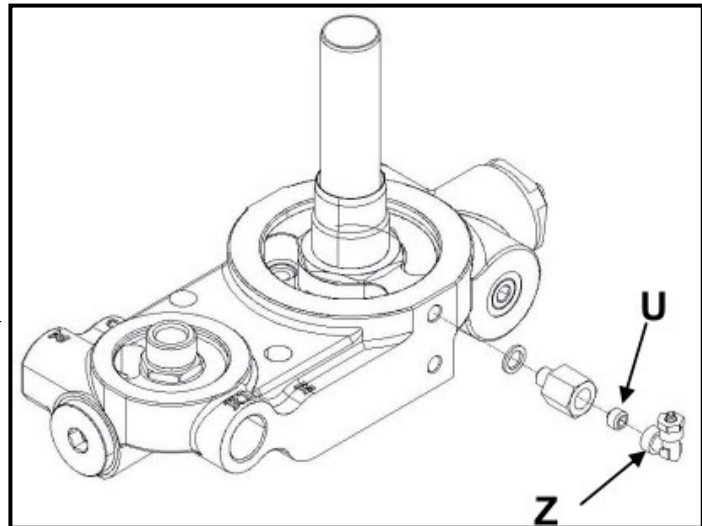

Figure 13.4-4 Oil recovery orifice
Control and clean the oil recovery is to be performed, should you find a leak of oil mist mixed with air compressed, operating as follows (Figure 13.4-4).
- 1) Unscrew the fitting located at the center of the tank (Letter Z in Figure 13.4-4);
- 2) Inside the ring (Letter Z in Figure 13.4-4) is a nozzle (Letter U in Figure 13.4-4): make sure that its calibrated hole is not blocked (blow with compressed air);